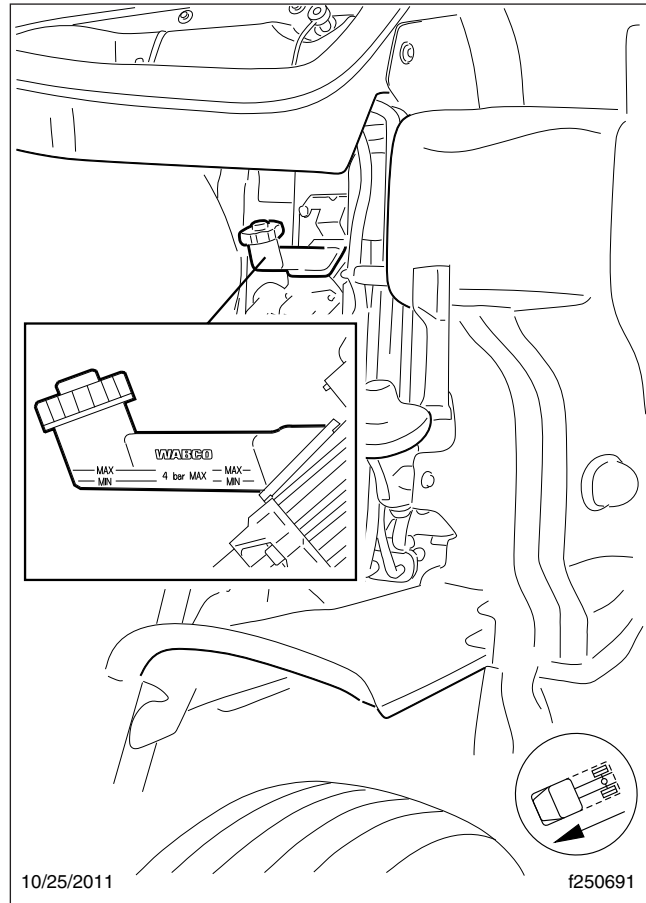

Fig. 4, Reservoir, Hydraulic Clutch Control
If the fluid level is below the MIN line, fill the reservoir with new DOT 4 brake fluid from a tightly sealed container until the level reaches the MAX line. See **Fig. 4**.
3. Remove the reservoir lid (see Fig. 4) and install the pressure bleed adaptor on the reservoir.
2. Remove the reservoir lid and fill the reservoir (see Fig. 4) with new DOT 4 brake fluid from a tightly sealed container.